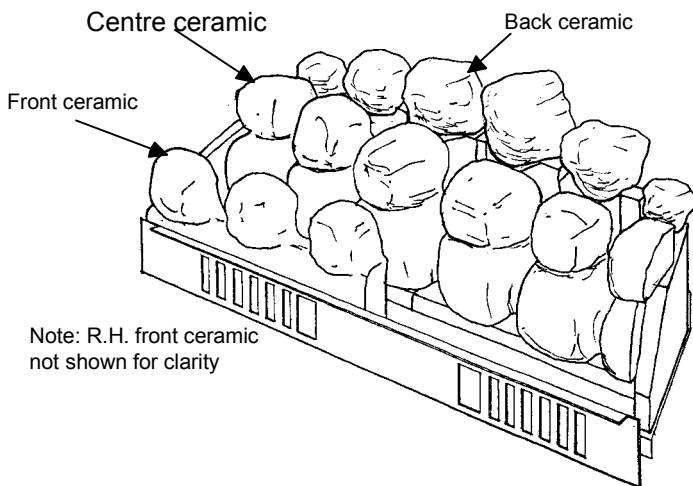

Fig. 11 Assembling the ceramic blocks (Theme 18)
5. Install the ceramics and coals. The ceramic components are fragile and should be handled with care. Refer to Figs. 11 to 13 for positioning of ceramic fibre blocks and coals.